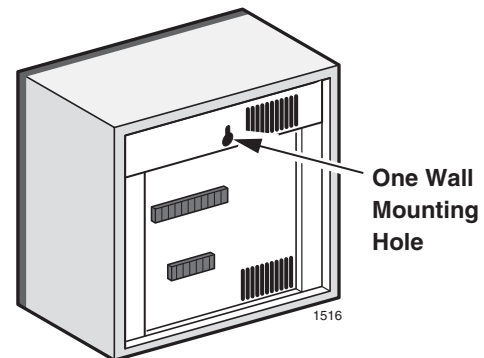

Figure 8-24 HESB Wall Mounting
1. Find a suitable location on the mounting surface for the HESB (see Figure 8-24).